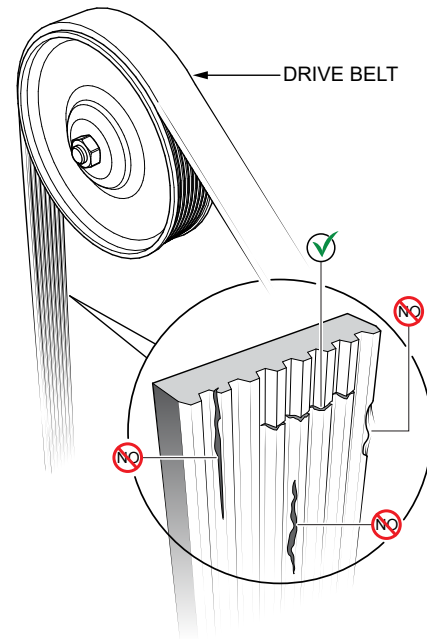

Figure 189. Drive Belt Inspection
1. Inspect the **drive belt** (Figure 189) for damage and wear. Horizontal cracks (across the belt) are acceptable. Vertical cracks (direction of belt ribs) that intersect with horizontal cracks are not acceptable.